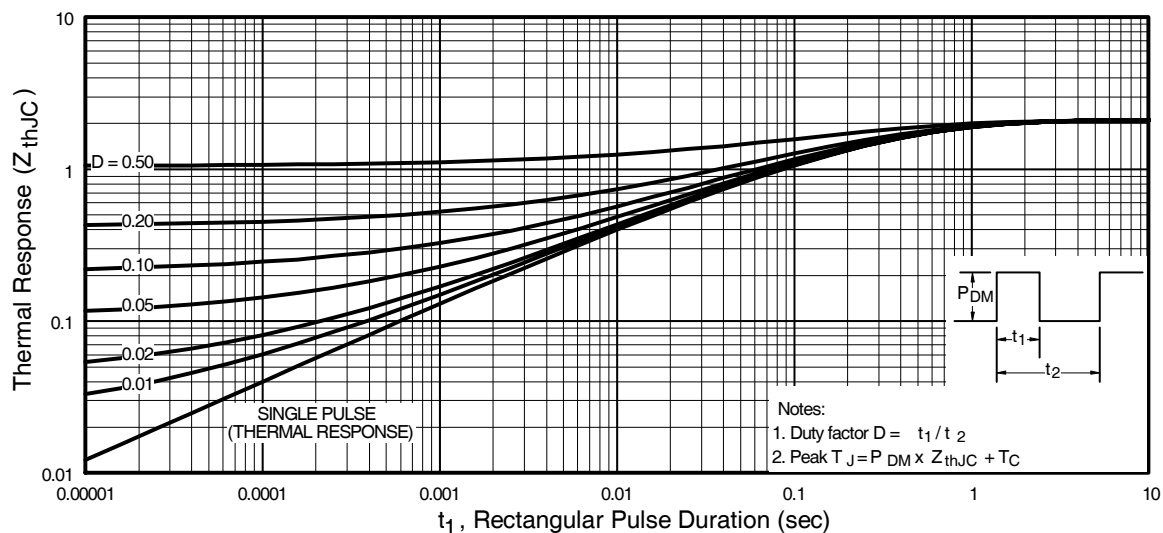

Fig 11. Maximum Effective Transient Thermal Impedance, Junction-to-Case
- ① Repetitive rating; pulse width limited by max. junction temperature. (See fig. 11)
- ② Starting $T_J = 25^\circ\text{C}$, $L = 6.8\text{mH}$